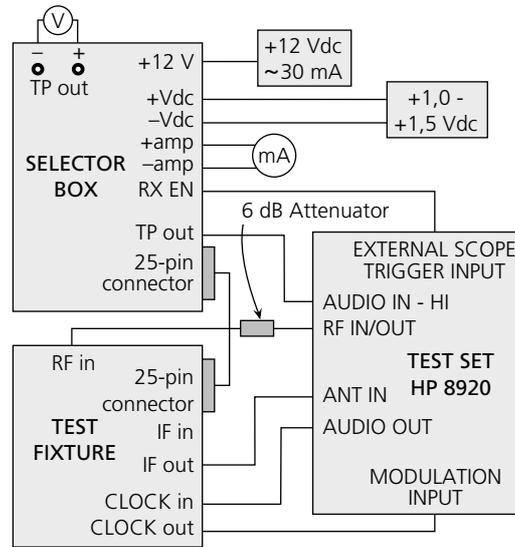
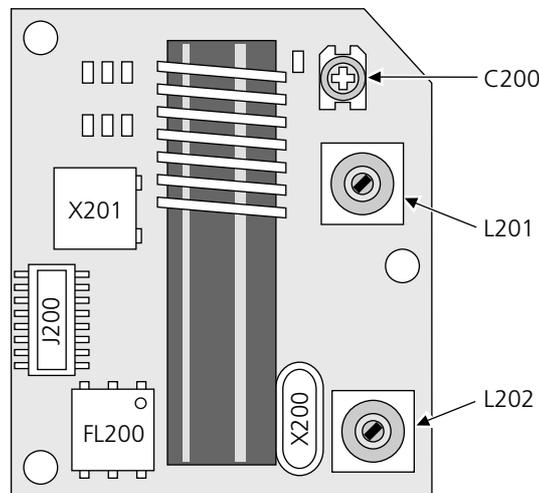
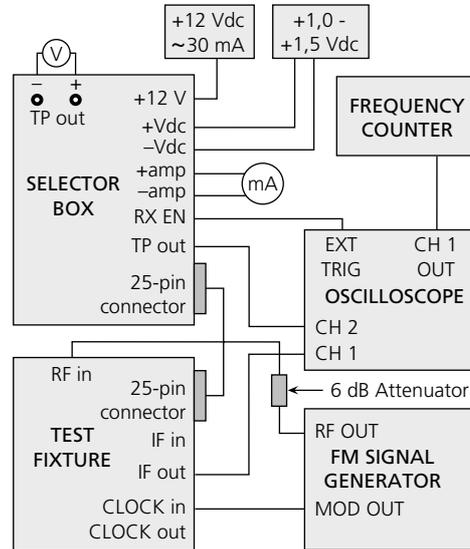
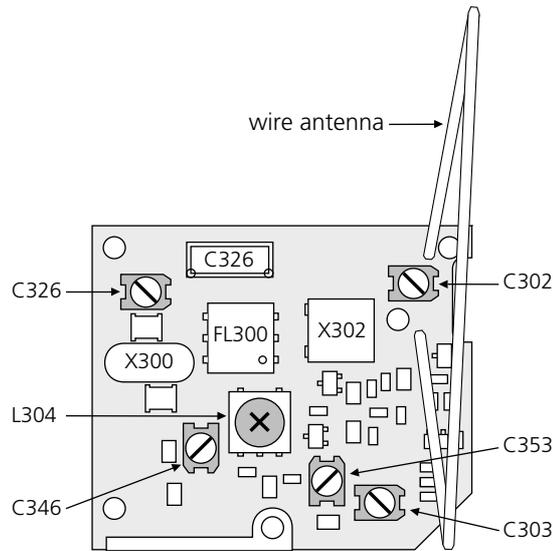

Figure 3. Recommended equipment setup using RF Communication Test Set.
Figure 5. H912RX top showing alignment points.
Figure 9. Equipment for alternate setup using Signal Generator and Oscilloscope.
Figure 15. U912RXD showing alignment components.
Alignment components referred to in the procedures are shown in the figure 3 on page 8, figure 5 on page 9 and figure 9 on page 11.
- 1 Connect the test equipment as shown in figure 3.
- 9 Adjust L202, L201, and C200 for max gain within passband ($455 \text{ kHz} \pm 4 \text{ kHz}$), see figure 5.
- 1 Connect the test equipment as shown in figure 9.
Alignment components referred to in the procedures are shown in the figure 15 on page 15, figure 5 on page 9 and figure 9 on page 11.